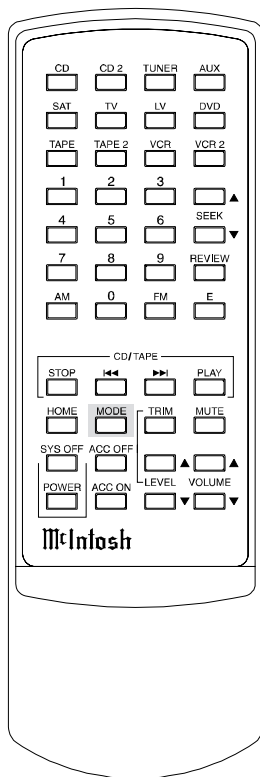

Figure 45
*Note: The Remote Control may also be used to make changes to the Surround Modes. Refer to figure 45.*